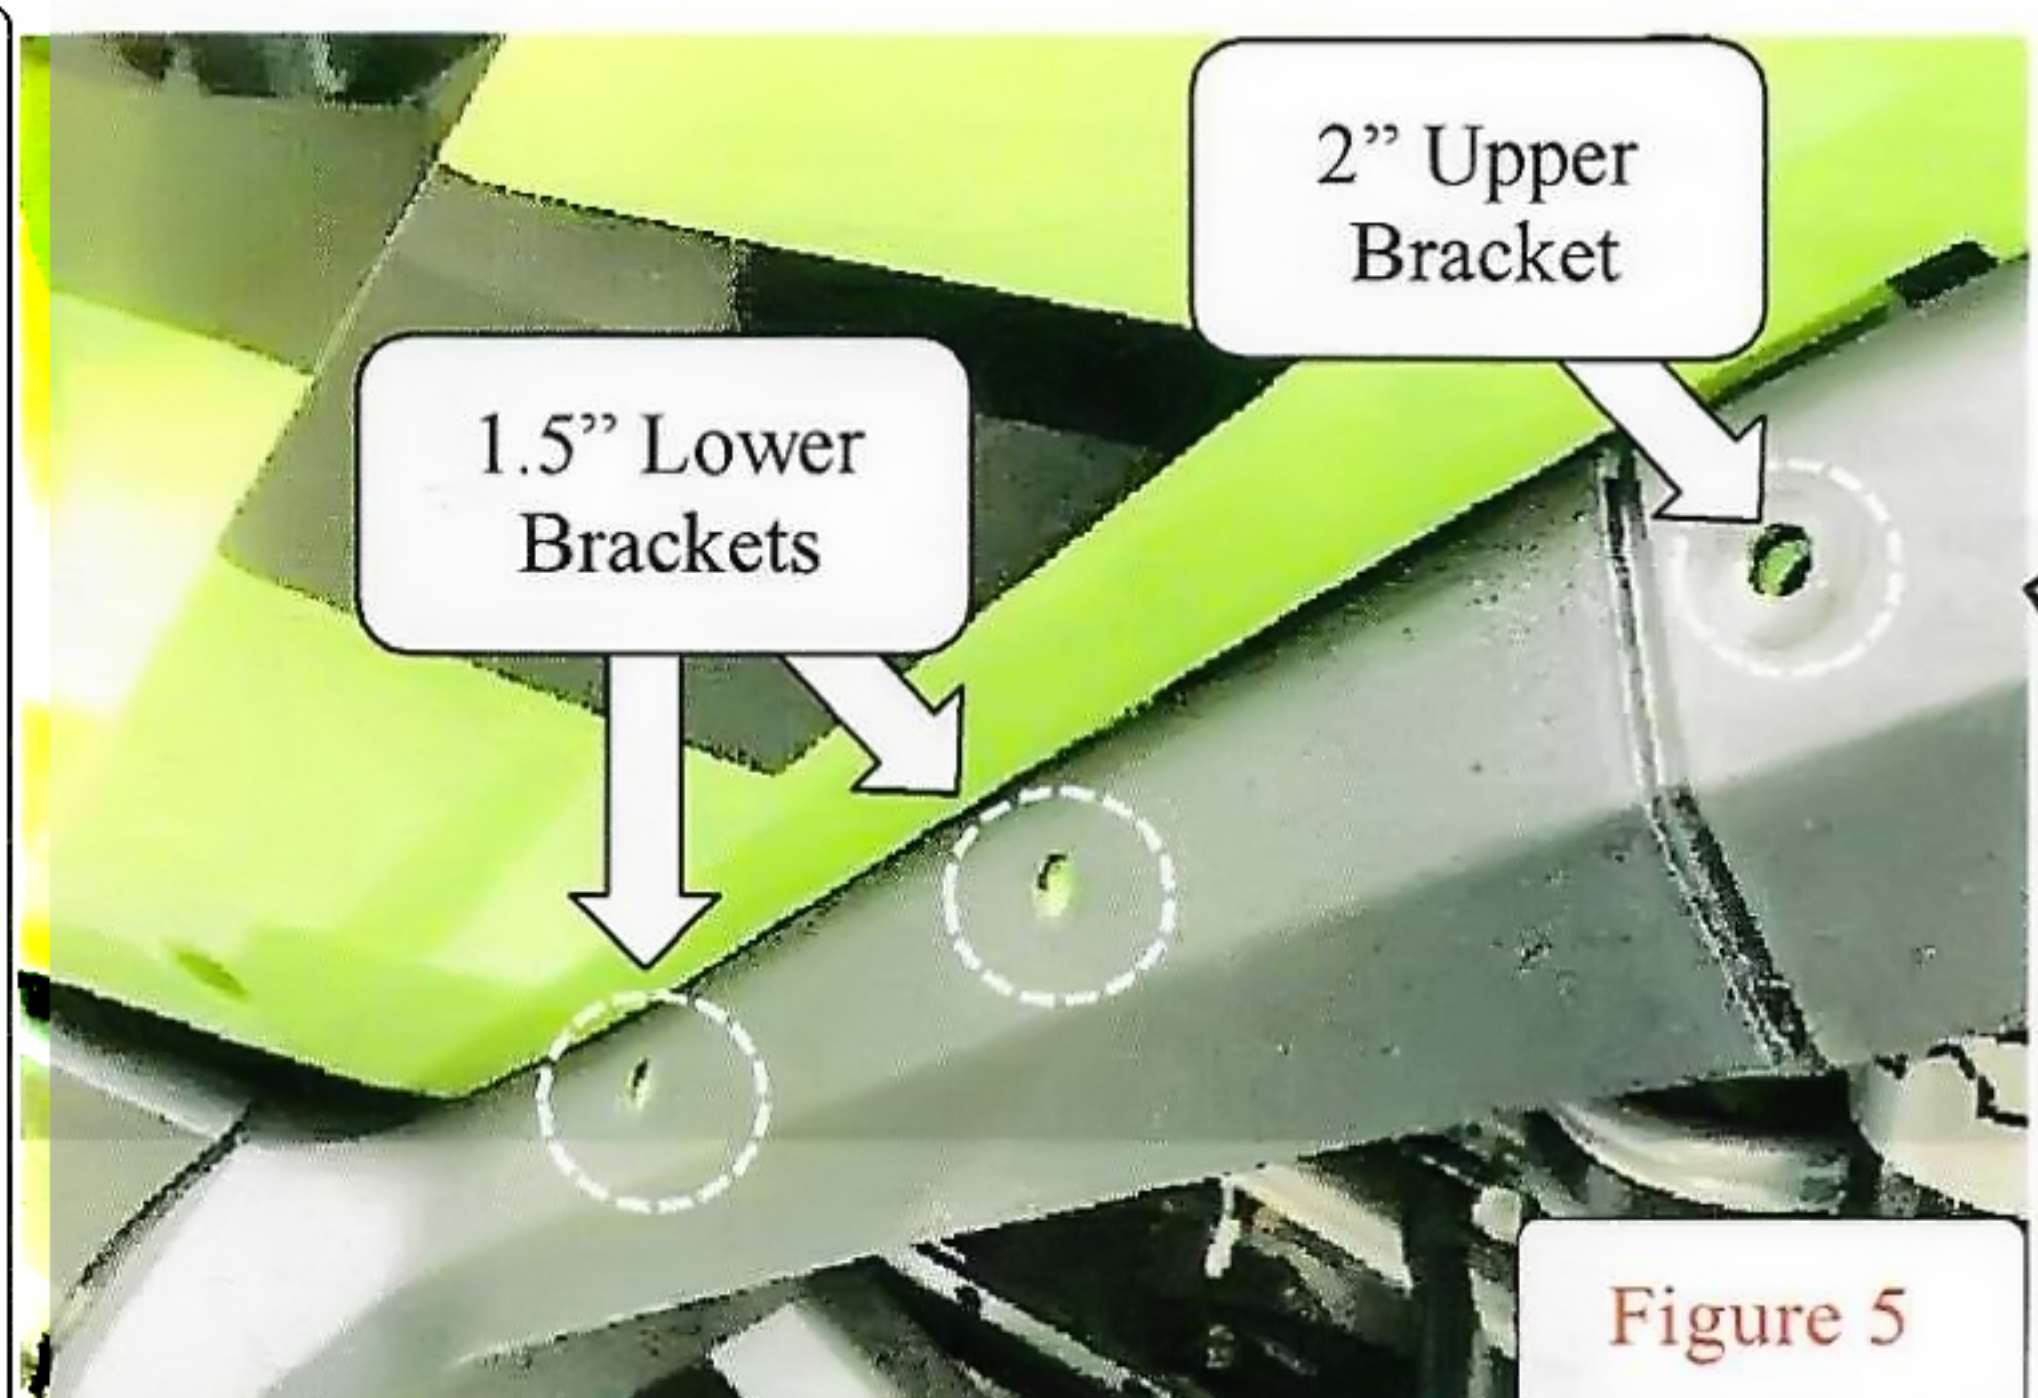

Figure 5
- 8) Remove the plastic rivets as shown in Figure 5.